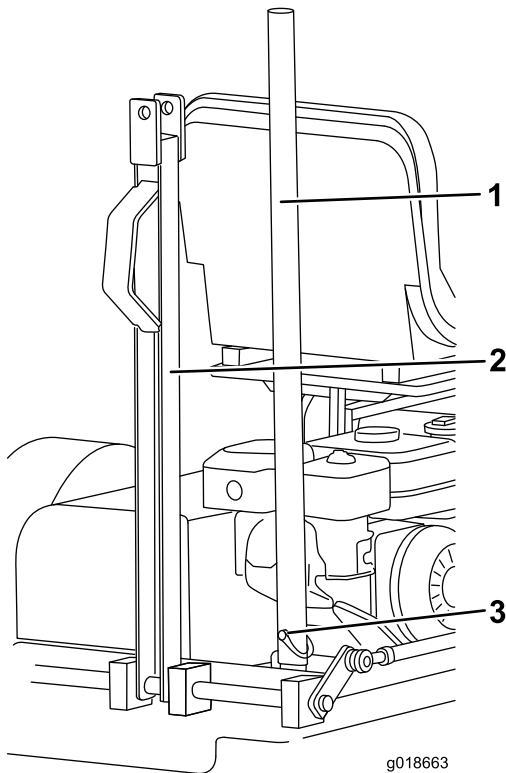

Figure 8
- A. Remove the lynch pin securing the lifting bar to the tab on the tow bar bracket and remove the bar from the bracket (Figure 8).